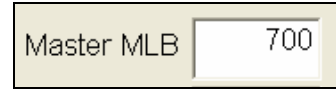

Figure 16.3.12B
8. Next set the **Master MLB** (Main Line Break). This is the number of gallons per minute that you want the Main Line Break to trip at (Figure 16.3.12B).